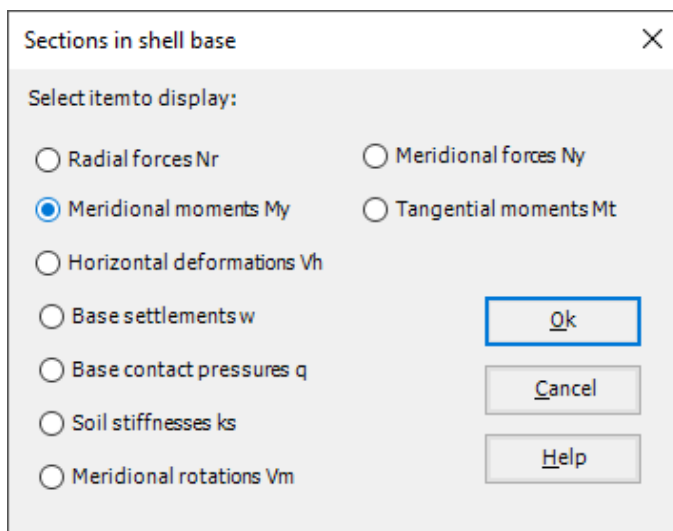

Figure 2.28 "Sections in shell base" option box
- Choose "Sections in shell base" command from "Section" menu. The following option box in Figure 2.28 appears